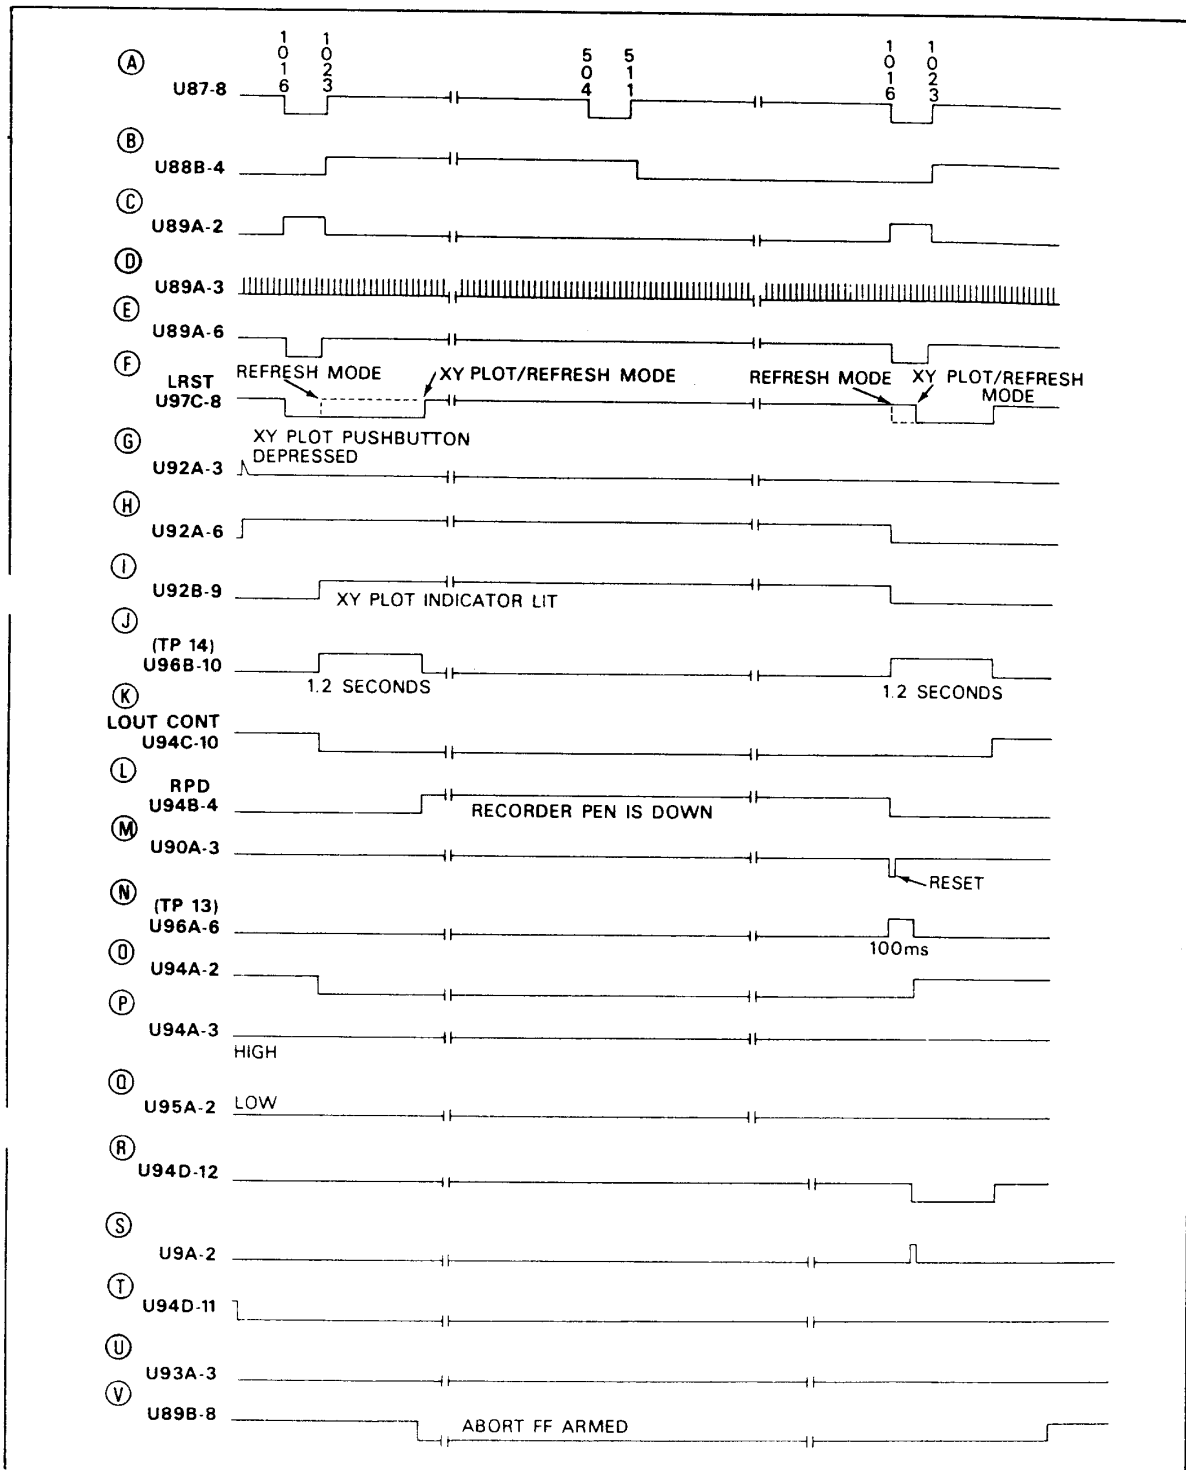

Figure 7-93. Refresh X-Y Plot Single-Channel Sweep Timing Diagram
The schematic diagram for this circuit is shown in Figure 7-89. Timing diagrams that show circuit-component output conditions during single and dual sweep operations are presented in Figure 7-93 and 7-94, respectively.
In the single-sweep timing diagram of Figure 7-93, the pulses shown at **(A)** result from ANDing the HOC 1 thru HOC 6 output count lines from the output counter. These six lines are only high simultaneously during counts of 504-511 and 1016-1023 (see Figure 7-91).
The dual-sweep timing diagram of Figure 7-94 is similar to the single-sweep timing diagram (Figure 7-93) except that two plots and two reset pulses are generated instead of one. The difference for the dual-plot timing diagram is the pulses shown at (O) thru (U). These pulses are used with flip-flop U95A and its associated gates and components to (1) generate a pulse that will initiate a new plot at the end of the Channel A plot, and (2) inhibit the generation of a plot-initiating pulse at the end of the Channel B plot.